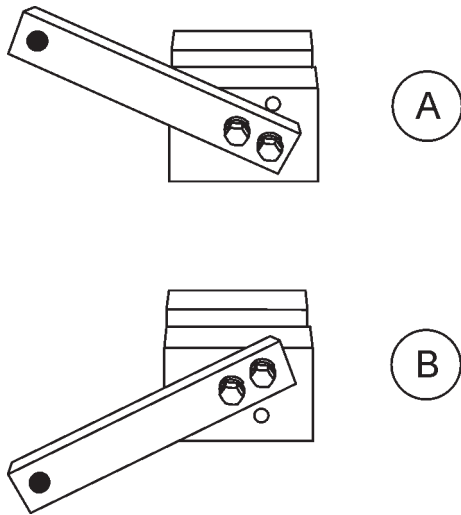

Figure 46. Trowel Arm Adjustment Setup
2. Ensure the fixture arm is in the proper setting (up or down) for your trowel arm rotation as shown in Figure 46.
Arms with **CLOCK-WISE** blade rotation use the fixture arm in the **UP** position (A in Figure 46). Arms with **COUNTER CLOCK-WISE** blade rotation use the fixture with the fixture arm in the **DOWN** position. (B in Figure 46).
1. Unscrew the two (2) t-bolts from the belt guard and remove the lockwashers.(Figure 46).